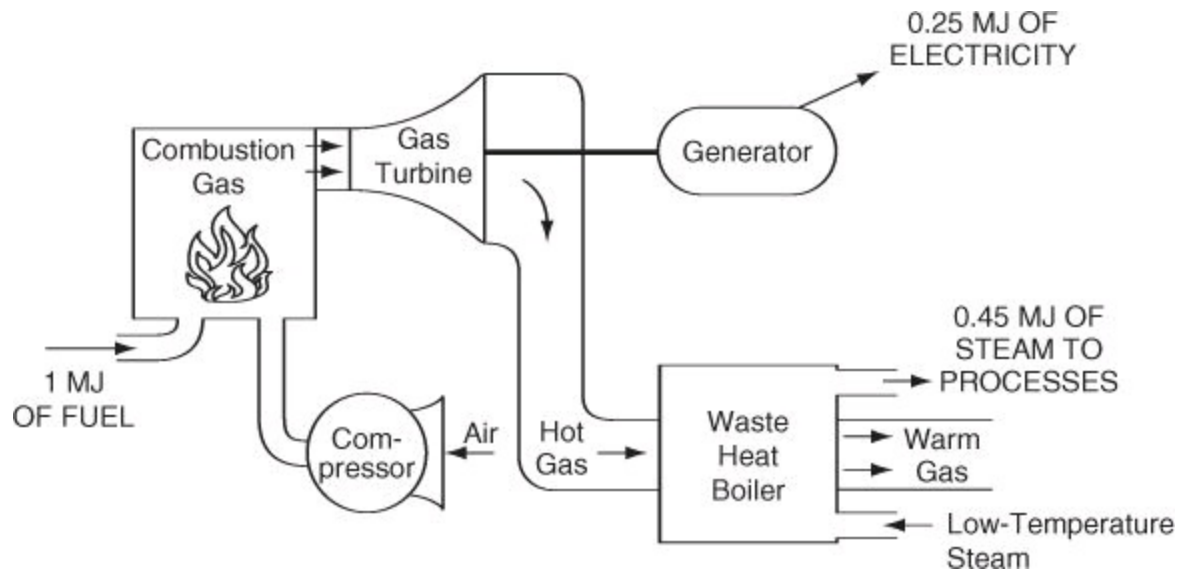

Figure SAT14.2P2
2. Cogeneration plants produce both electricity and steam. Figure SAT14.2P2 shows such a plant. What will be the percent fuel savings to get the electricity and steam from using the cogeneration plant in contrast to using two separate plants, one to produce 0.25 MJ of electric energy and one to produce 0.45 MJ of thermal energy in the steam?